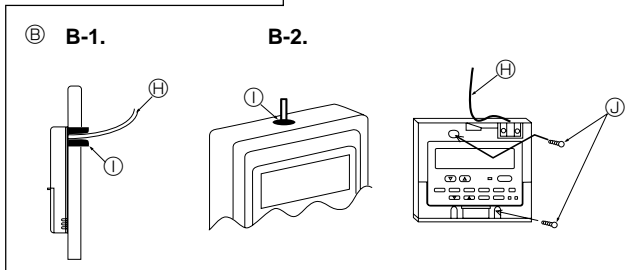

Fig. 2-2
(2) Seal the service entrance for the remote controller cable with putty to prevent possible invasion of dew drops, water, cockroaches or insects. (Fig. 2-2)
#### [Fig.2-2]